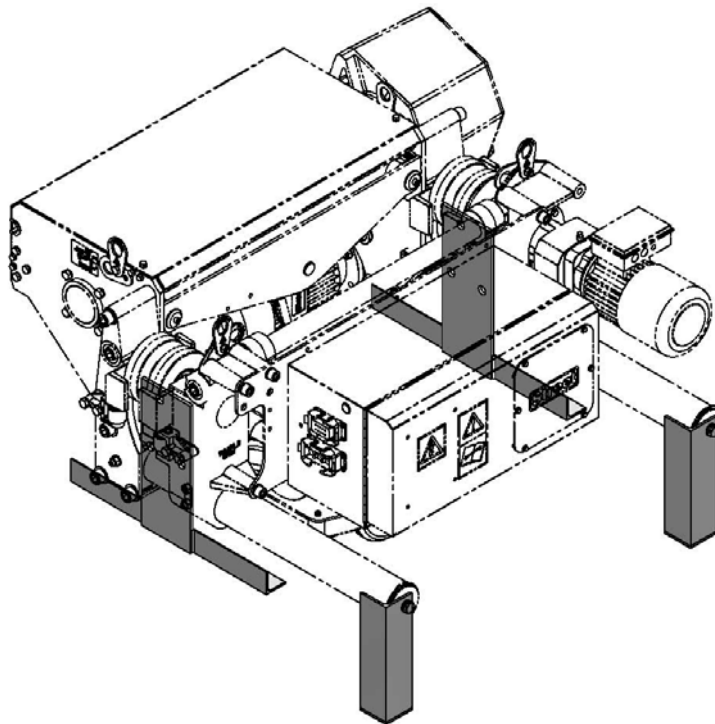

Figure 13 – Low Headroom Hoist Transportation Feet
- Remove the four blue transportation feet from the hoist legs (Figure 13).